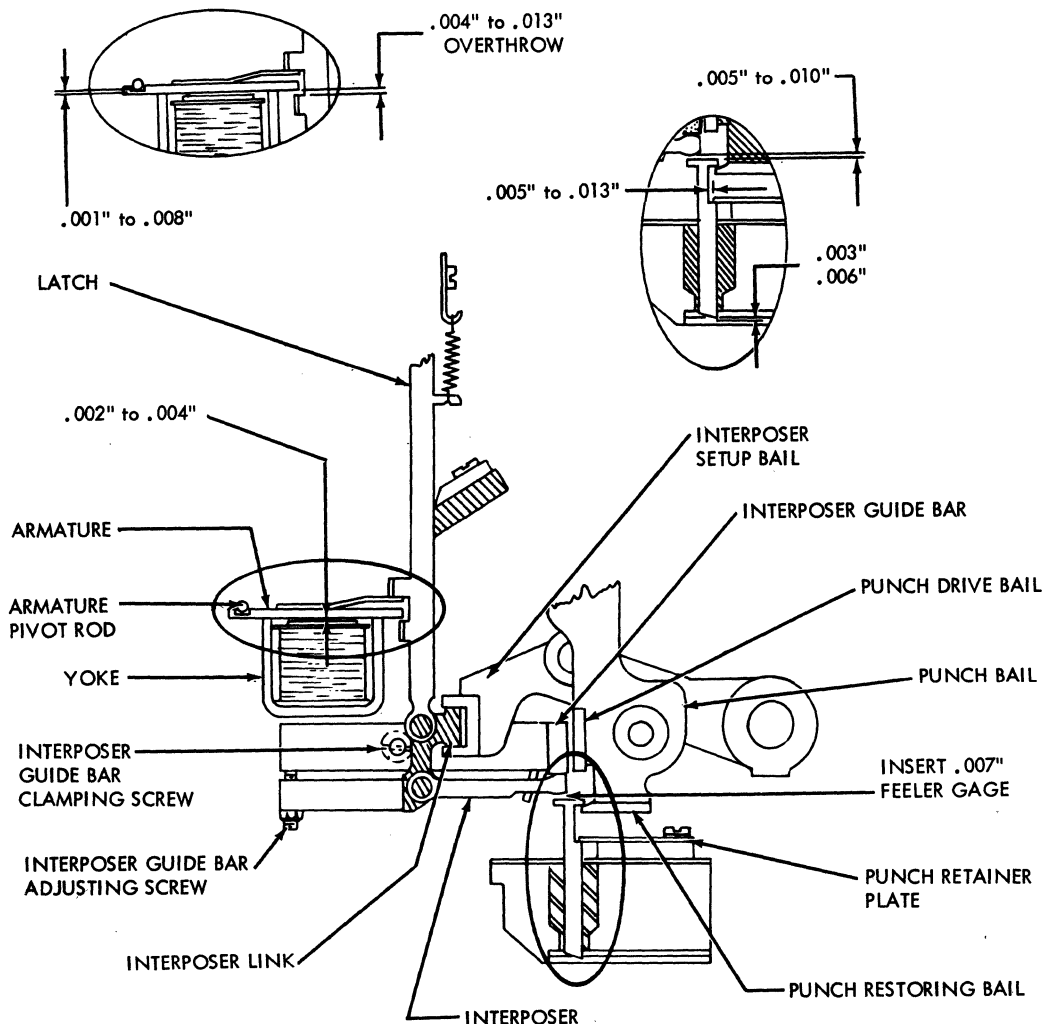

Figure 3-34. Punch Unit Adjustments
3. Remove latch spring. See Figure 3-34.
- a. With the punch magnet de-energized, insert .007" feeler gage between punch and interposer. See Figure 3-34.
- a. Slightly loosen interposer guide bar clamping screws. See Figure 3-34.
4. Remove latch spring from latch. See Figure 3-34.
5. Push down on latch and unhook interposer link. See Figure 3-34.
- a. Provide .002" to .004" clearance between armatures and cores. See Figure 3-34.
- b. Check armature-to-pivot rod clearance. Set clearance between perceptible minimum movement to a maximum of .008" with operating end of armature held against yoke. See Figure 3-34.
3. Check .004" to .013" clearance between lower side of armature and latch at both column-1 and column-80 ends of unit. See Figure 3-34.
- b. Loosen magnet unit adjusting lock nuts and adjust screws for .004" to .013" clearance between armature and latch. See Figure 3-34.
3. Carefully place drive unit on magnet unit so all 80 interposer links fit into interposer setup bail. See Figure 3-34.
- a. Check .004" to .013" latch overthrow. See Figure 3-34.
- b. Check .005" to .010" interposer to punch clearance. See Figure 3-34.
3. Remove retainer plate from stripper assembly. See Figure 3-34.
- a. Check for .005" to .013" punch-to-retainer-plate clearance before re-assembling stripper to punch unit. See Figure 3-34.
- b. Check for .005" to .010" interposer-to-punch clearance. See Figure 3-34.
2. Check that toes of punches retract .003" to .006" into stripper. See Figure 3-34. Adjust by adding or removing shims 437964 between the stripper assembly and punch unit side frame. (Shim 437964 is .003" thick.)
3. Adjust retainer plate for .005" to .013" clearance between plate and punches. See Figure 3-34.